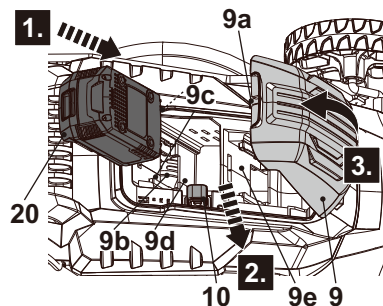

Fig. 10
- Slide the battery pack (20) into the slots (9c) of the battery compartment (9d) (Fig. 10, step 1).
- Make sure that the electrical contacts (9b) are fully inserted into the battery pack (20) and that it snaps in place with a click.
- The battery pack (20) can only be installed in one direction.
- Reinstall the safety key (10) into its slot (Fig. 10, step 2).
- Close the battery cover (9) to ensure that the latch (9a) snaps in place (Fig. 10, step 3).